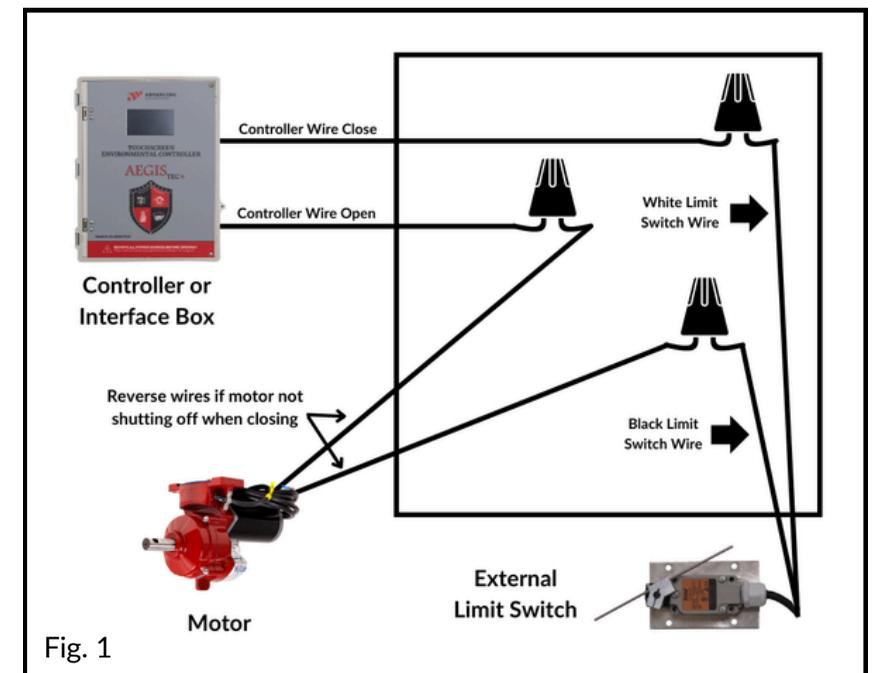

Fig. 1
3) Wire the limit switch. Connect the wires as follows (see Figure 1):